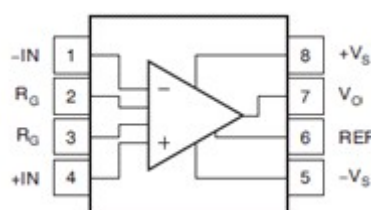

Figure 6. Pin configuration of the instrumentation amplifier
- Calculate the required value of the resistance R_G to achieve an amplification factor G of 500. The pin configuration of the instrumentation amplifier is represented in Figure 6. You can find more information about the instrumentation amplifier in file “datasheet_INA826”. For this lab, the 1st pin is marked with the white colour.